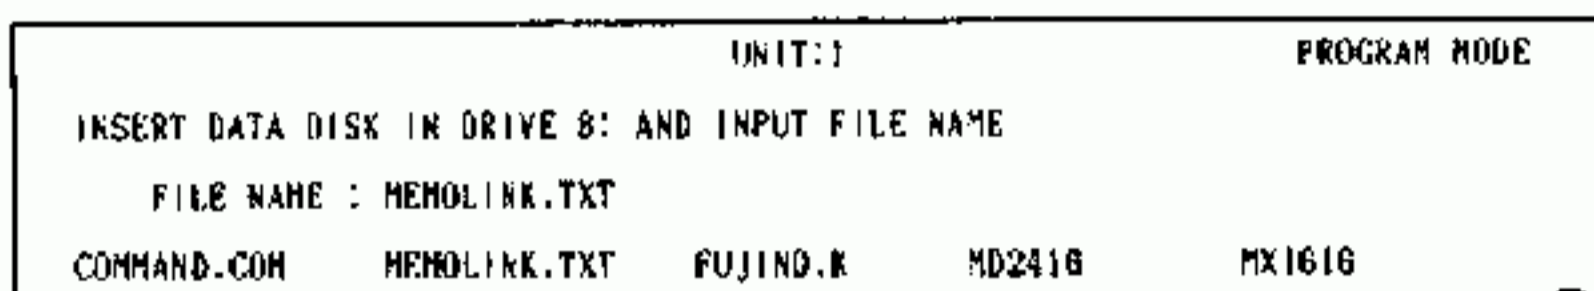

Fig. 5.2.122
2. Depressing "DIRECTORY" key displays the file names (Fig. 5.2.122).